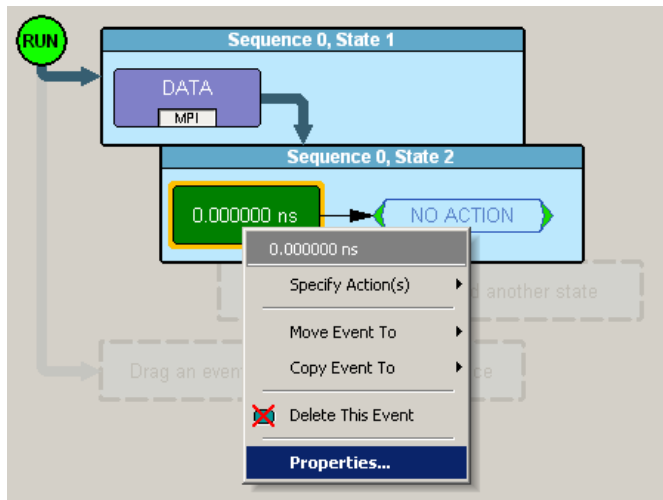

Figure 12.41 Example 5: Bringing Up the Timer Dialog Box
Step 8 Right-click the **Timer** event to open its Properties dialog box (Figure 12.41).